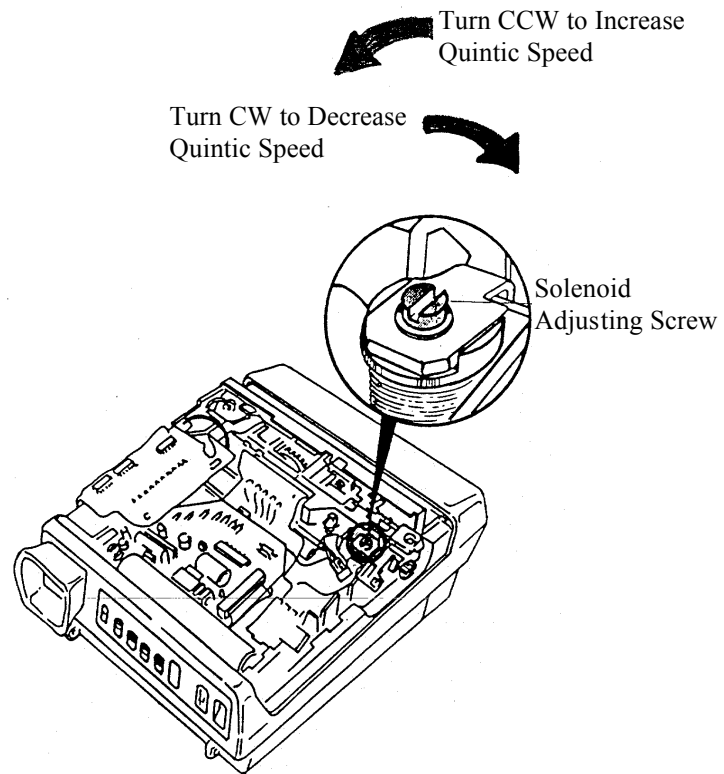

Figure 3-14 Adjusting Solenoid 1 to Change Quintic Speed.
2. Using a small screwdriver, carefully turn the adjusting screw of Solenoid 1 one-half turn at a time. Turn the screw counter-clockwise to increase Quintic speed, clockwise to decrease Quintic speed. (See Figure 3-14.)